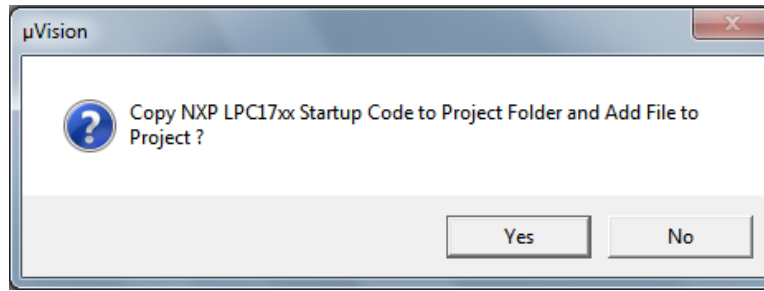

Figure 3.6: Keil IDE: Copy Startup Code
- Answer “Yes” to copy the startup code (See Figure 3.6).